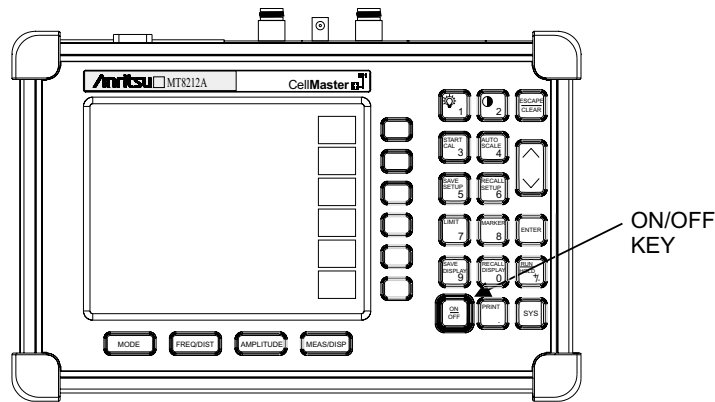

Figure 3-1. Cell Master On/Off Key
- Step 1.** Press the **ON/OFF** front panel key (Figure 3-1).